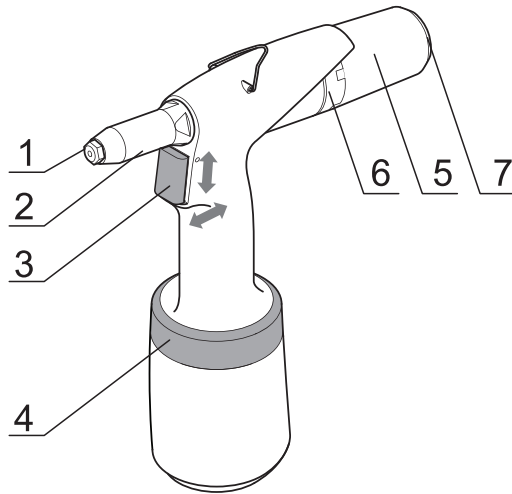

Fig. 1
Push the mandrel container /fig.1 - pos.5/ into the ring relief /fig.1 - pos.6/ end-to-end, thus you depress the arrestment element, and turn to position 1 or 2. The mandrel container shall thus be in place. Suction shall initiate in position 2. Silicone hood of the mandrel container /fig.1 - pos.7/ can be turned to let the compressed air out in suitable direction (e.g. offward the operator)